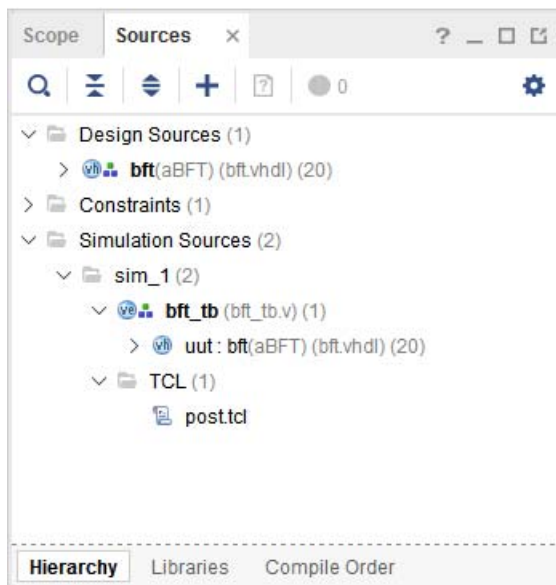

Figure 4-16: Using the `post.tcl` File in a Design
4. Add the `post.tcl` file to your Vivado Design Suite project as a simulation source. The `post.tcl` file displays in the Simulation Sources folder, as shown in Figure 4-16.